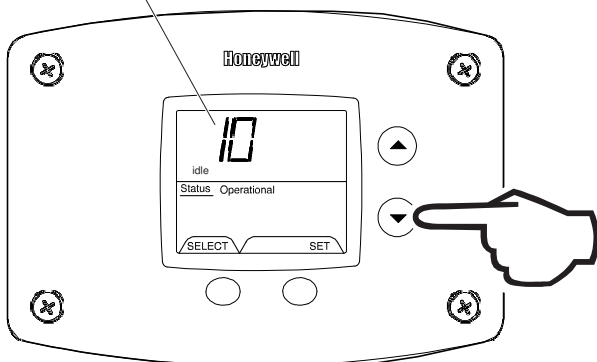

Fig. 64
2. Press the "Temperature Down" button to select the error code index, starting with the most recent error code '10' (Fig. 64).